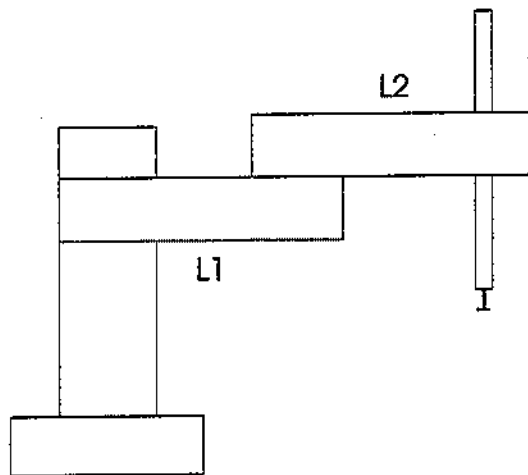

Figure 5. A SCARA Robot.
5. A SCARA robot is shown in Figure 5, where $L1=L2$. Find the workspace for the robot and point out the dextrous workspace if there is any, assume both $L1$ and $L2$ can rotate for 360° (8 points).